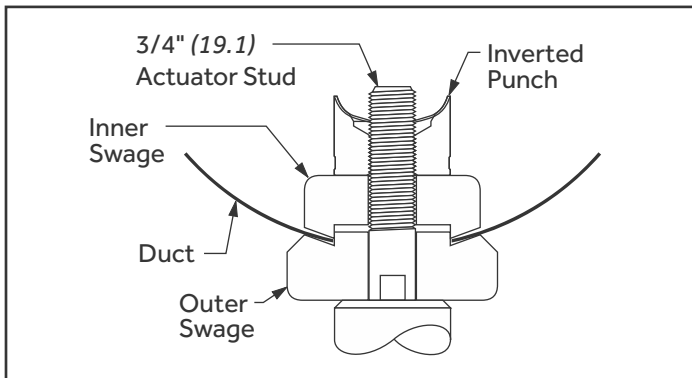

Fig. 33: 60mm Swage Configuration
4. Swage Hole: Slide the 60mm outer swage tool onto the 3/4" (19.1) actuator stud. Insert the actuator stud and outer swage tool into the 60mm hole. From inside the duct, slide the matching inner swage tool onto the actuator stud. Invert and thread any one of the three punches onto the actuator stud (cutting surfaces facing away from the inner swage tool) until the inner swage tool, the duct and the outer swage tool are snug. Operate the hydraulic actuator to compress the swage tools together to form the swage. Loosen and remove the swage tool. (Fig. 33)